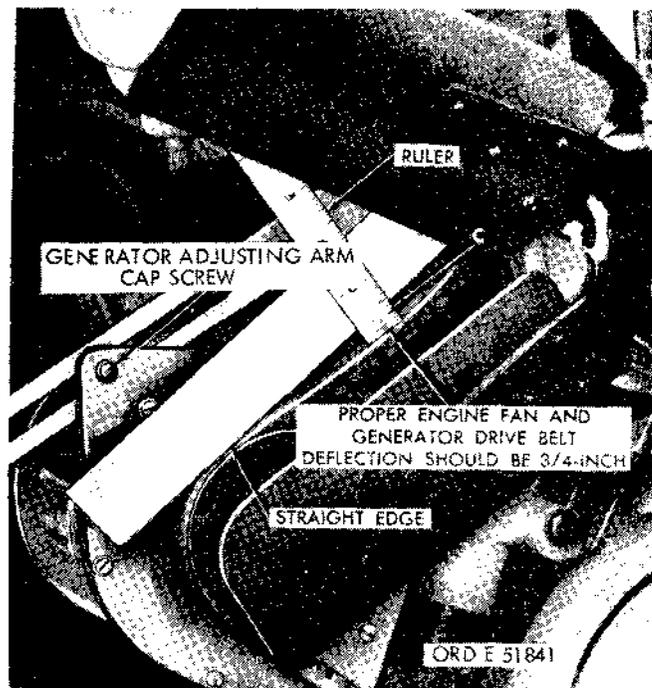

Figure 2-129. Drive belt deflection and adjustment.
a. Adjustment. Drive belt adjustment should be made on new engines after the vehicle has traveled 100 miles. Check the drive belt tension by applying a slight pressure individually to each belt at a point midway between the fan and generator pulleys. Belt deflection at this point should be three-quarters of an inch (fig. 2-129). If the belt deflection is found to be otherwise, adjust the belt tension as follows: